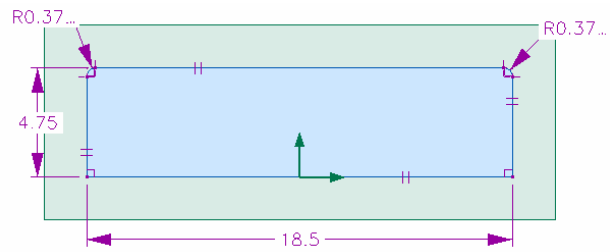

Figure 12. Bottom and Middle Step Profile.
27. Draw the profile shown in figure 12. The two radii are 0.375"